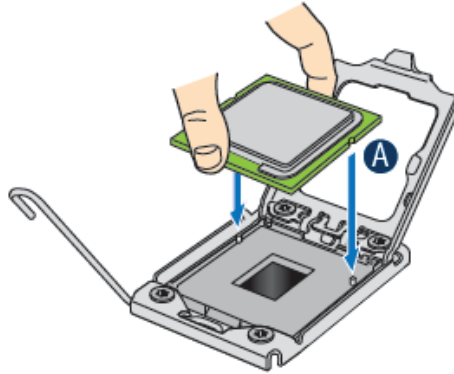

Figure 24. Installing the Processor
- Align the processor cutouts to match the two socket pins, and then insert the processor into the socket as shown in Figure 24.